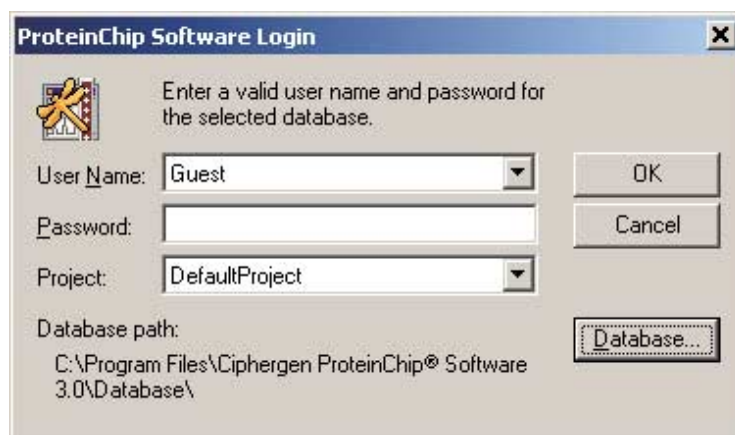

Figure 1-1: The **ProteinChip Software Login** dialog.
2. The startup screen will appear briefly, then the **ProteinChip Software Login** dialog will be displayed (Figure 1-1).